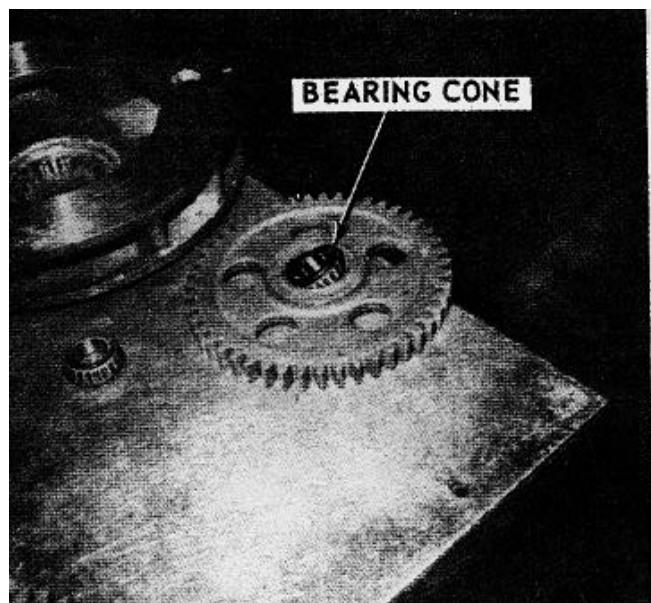

FIGURE 8-16.
u. Inspect each bearing cup and cone, including those not removed from the pinion gears, and replace if rollers or cups are worn, pitted or damaged in any way. Remove parts needing replacement (see figure 8-16).